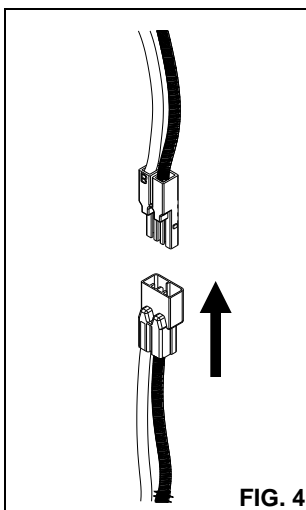

FIG. 4
3. Plug the FEMALE CONNECTOR of the RETROFIT TRIM onto the MALE CONNECTOR of the SOCKET ADAPTER ASSEMBLY. (FIG. 4)
1. Plug the FEMALE CONNECTOR of the RETROFIT TRIM onto the MALE CONNECTOR of the HALO HOUSING. (FIG. 4)